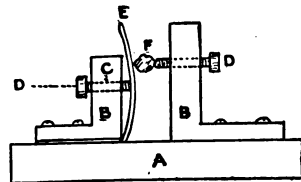

Fig. 10
Any boy may readily construct an efficient mineral detector, such as is shown in Fig. 10, with a few odds and ends. The detector consists of a hard-wood or compressed-fiber base (A); a couple of brass or copper standards, and a piece of spring-brass. The base (A) is one inch wide, three inches long and  $3/8''$  thick. The brass standards (B, B) are each  $1/4''$  thick by  $3/8''$  wide. The upper portion of one standard should be one inch by one inch, the other one inch by  $1-3/8''$ . A hole (C) is then bored with a No. 31 drill  $1/4''$  below the top and in the center of each standard. The holes should be tapped with an  $8/32''$  screw tap and a  $3/4''$  No. 8 screw (this may be obtained from the carbon of an old dry battery) fitted in each hole as shown at D, D. Two holes are drilled through the base of each standard with a No. 10 drill, and the holes countersunk for brass wood-screws.